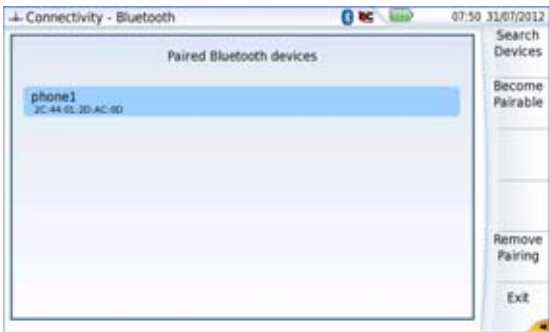

Fig. 32 Platform paired with one equipment
- 3 Once the bluetooth device and the Platform are paired, a screen is displayed with the description of the device (see Figure 32 on page 55).